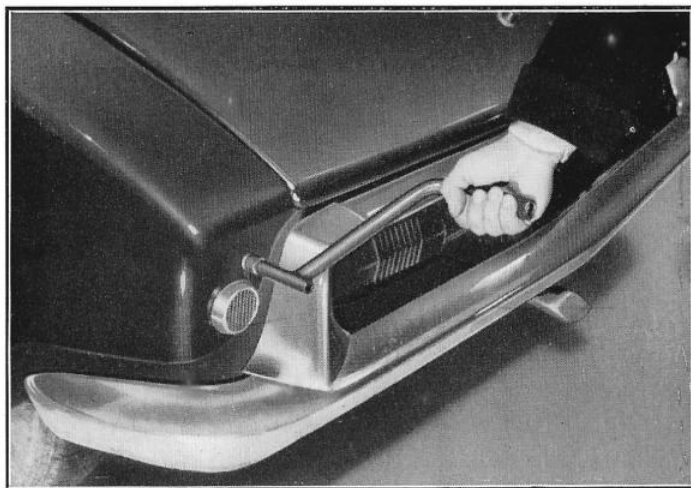
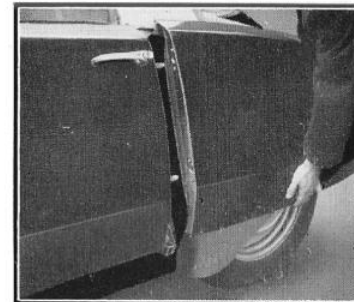

Figure 9
Figure 10
- Remove the tool kit and the spare wheel located under the hood. In the case of a rear wheel, remove the fender : unscrew the screw (fig. 9), using the crank and pull the fender towards the rear (fig. 10) while raising it slightly.
In the case of the rear wheel, refit the fender; first engage the dowels (fig. 10) in their housings. **Push the fender as far as possible towards the front and retighten the screw** (fig. 9).